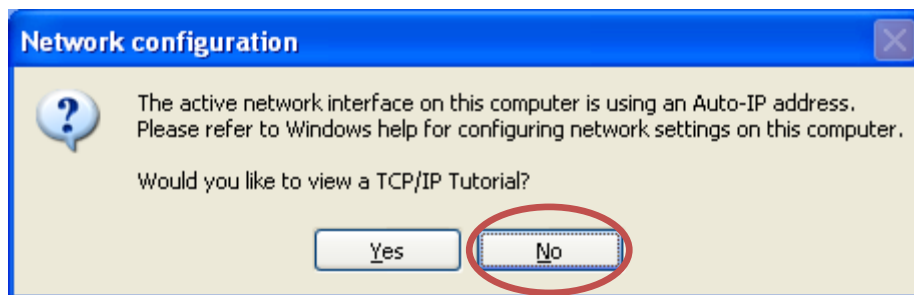

Figure 12 Device Installer pop up window
- Open **Device Installer**. If a message box comes up asking you to view a TCP/IP tutorial (Figure 12), click No.